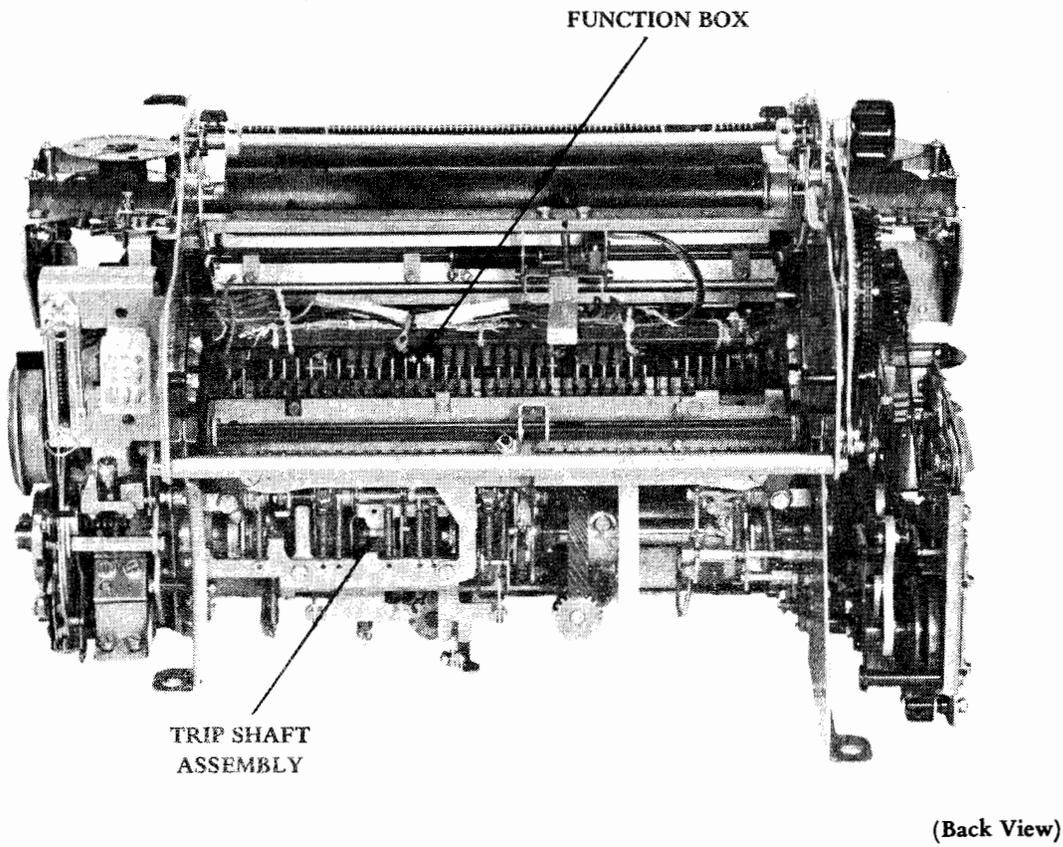

Figure 7 - Function Box and Trip Shaft Assembly Mounted in Typing Unit
2.18 To remove the function box from the unit, proceed as follows (Figures 7 and 8). (On units with sprocket feed, remove the paper tray.) Remove the connector mounting screws and feed connector through the side frame.
- 2.21 To replace the function box, reverse the procedure used in removal (Figures 7 and 8).
2.36 To remove the trip shaft assembly from the unit, proceed as follows (Figure 7).
2.37 To replace the trip shaft assembly (Figure 7), proceed as follows.